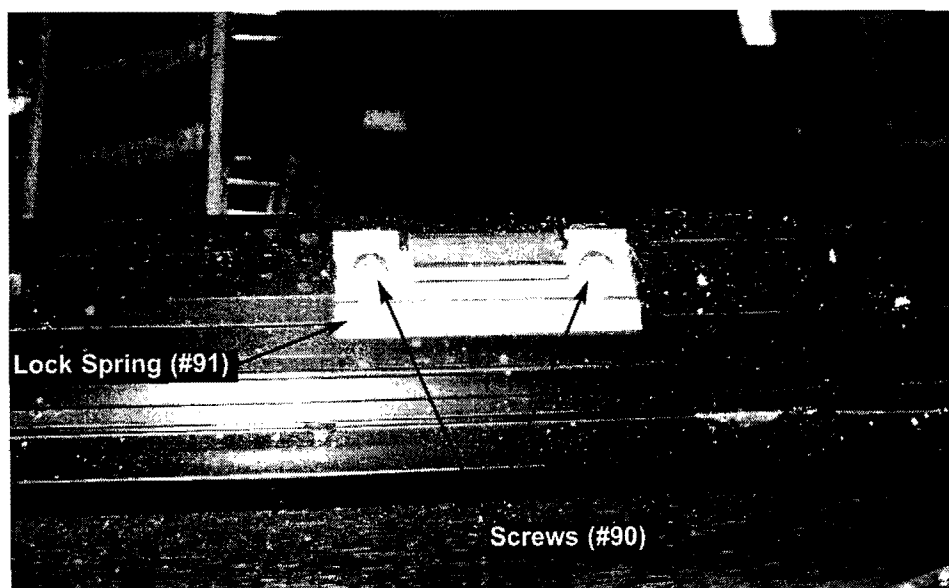

FIGURE 5
Step 4- Remove the Lock Springs (#91) from the bottom of the window Back Frame secured with screws (#90). (**Figure 5**) These screws (2 in each Lock Spring) are threaded into Spacer Block (#92) on the outside of the Back Frame. Since the Spacer Blocks are on the outside of the Back Frame they cannot easily be removed. Either simply replace the screws that held the Lock Springs to fill the screw holes, or use Manus-Bond to fill the holes so water will not run through the holes and get inside the bus sidewall.